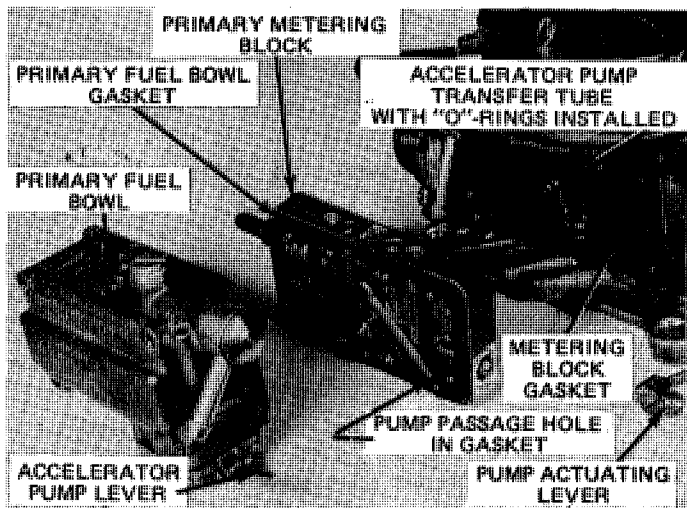

Fig. 4
- a. Remove the four (4) primary fuel bowl screws, the primary fuel bowl, metering block, and gaskets. See Figure 4.
- e. Reassemble primary metering block, fuel bowl and fuel bowl screws using new gaskets provided. Press gaskets firmly onto dowels, make sure that hole in fuel bowl gasket lines up with pump passage in metering block. See Figure 4. Make sure that the accelerator pump lever is underneath the pump actuating lever (See Figure 4) before tightening bowl screws. Torque fuel bowl screws evenly, in stages, to 25 to 30 in.lbs.
9. Install secondary metering body gasket. Press gasket firmly on metering body. Install fuel bowl gasket on face of metering body. Install fuel bowl gasket on face of metering body. On "double-pumper" models, make sure hole in gasket lines up with pump passage in metering block. See Figure 4.
11. Carefully slide secondary fuel bowl on fuel transfer tube and seat bowl on gasket. Install four (4) long bowl screws and new gaskets supplied in kit. Torque screws evenly, in stages, 25 to 30 in. lbs.